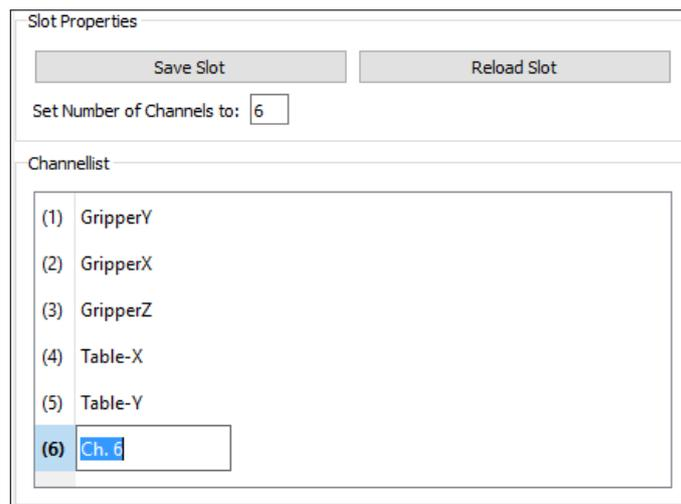

Figure 4.7: Context area when a slot node is selected
- Figure 4.7 displays the right area, when a slot node is selected in the tree. Having selected a slot, the context sensitive area contains two buttons (*Save Slot* and *Reload Slot*), a box to set the amount of channels and a list of these channels. The *Reload Slot* button will reload only the selected slot, unlike the global *Read* button (in the top section of the "Configuration" group) which reads all slots at once. The *Save Slot* button will write the slot, regardless if it was modified or not, unlike the global *Write* button (in the top section of the "Configuration" group), which will only write a slot if it was modified. Setting the amount of channels for a slot is not dependent on the connected device, as slots can be configured for different devices this way. The list of channels gives an overview as to how many channels the slot configuration has and their names.